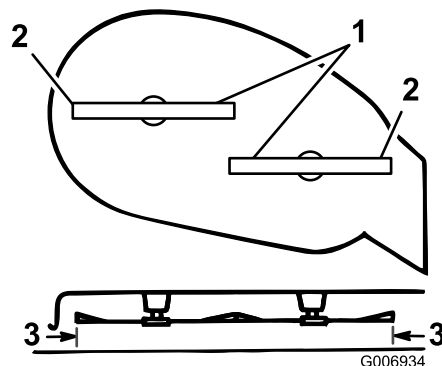

Figure 47
5. Carefully rotate the blades side to side (Figure 47).
6. Measure between the outside cutting edges and the flat surface (Figure 47). If both measurements are not within 3/16 inch (5 mm), adjust them; refer to 7 through 10.